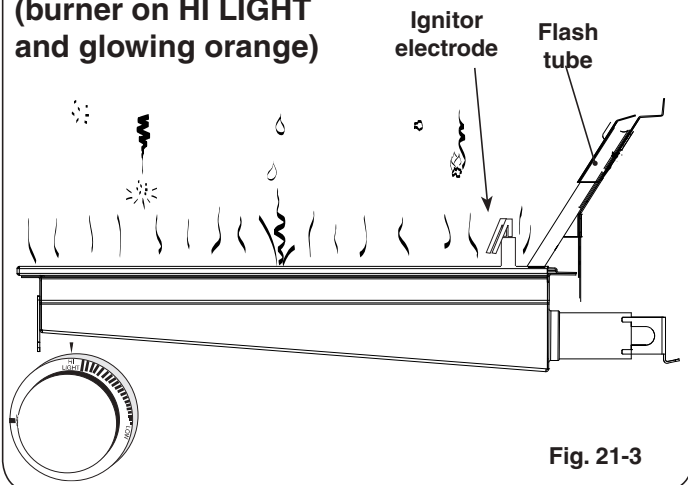

Fig. 21-3
- **DO NOT** place food on the cooking grid until the IR burner glows orange (Fig. 21-3). Drippings are heated and evaporate instead of sticking to and impairing burner function.